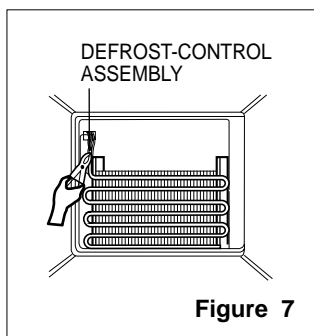

Figure 7
2. Separate the connector of the Defrost Control assembly and replace the Defrost Control assembly after cutting the Tie Wrap. (Figure 7)